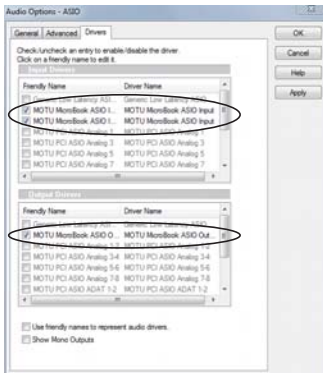

Figure 6-7: Activating the MOTU audio ASIO driver in SONAR by highlighting MicroBook inputs and outputs.
- 5 Check the MicroBook inputs and outputs that you wish to use, and uncheck the ones you don't, as shown in Figure 6-7.